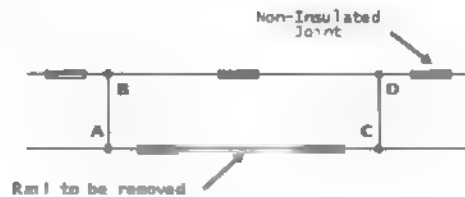

Figure 5 - BONDING
- 1.606** Method of applying temporary rail jumpers in electrified territory when rail is to be removed from track. (See Figure 5)